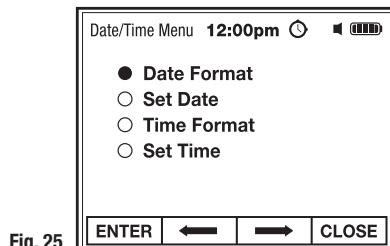

Fig. 25
- Use the soft keys to select and ENTER desired Date or Time setting (Fig. 25).
- From the Date/Time Menu, select and ENTER Date Format (Fig. 25).
- From the Date/Time Menu, select and ENTER Set Date (Fig. 25).
- From the Date/Time Menu, select and ENTER Time Format (Fig. 25).
1. From the Date/Time Menu, select and ENTER Set Time (Fig. 25).